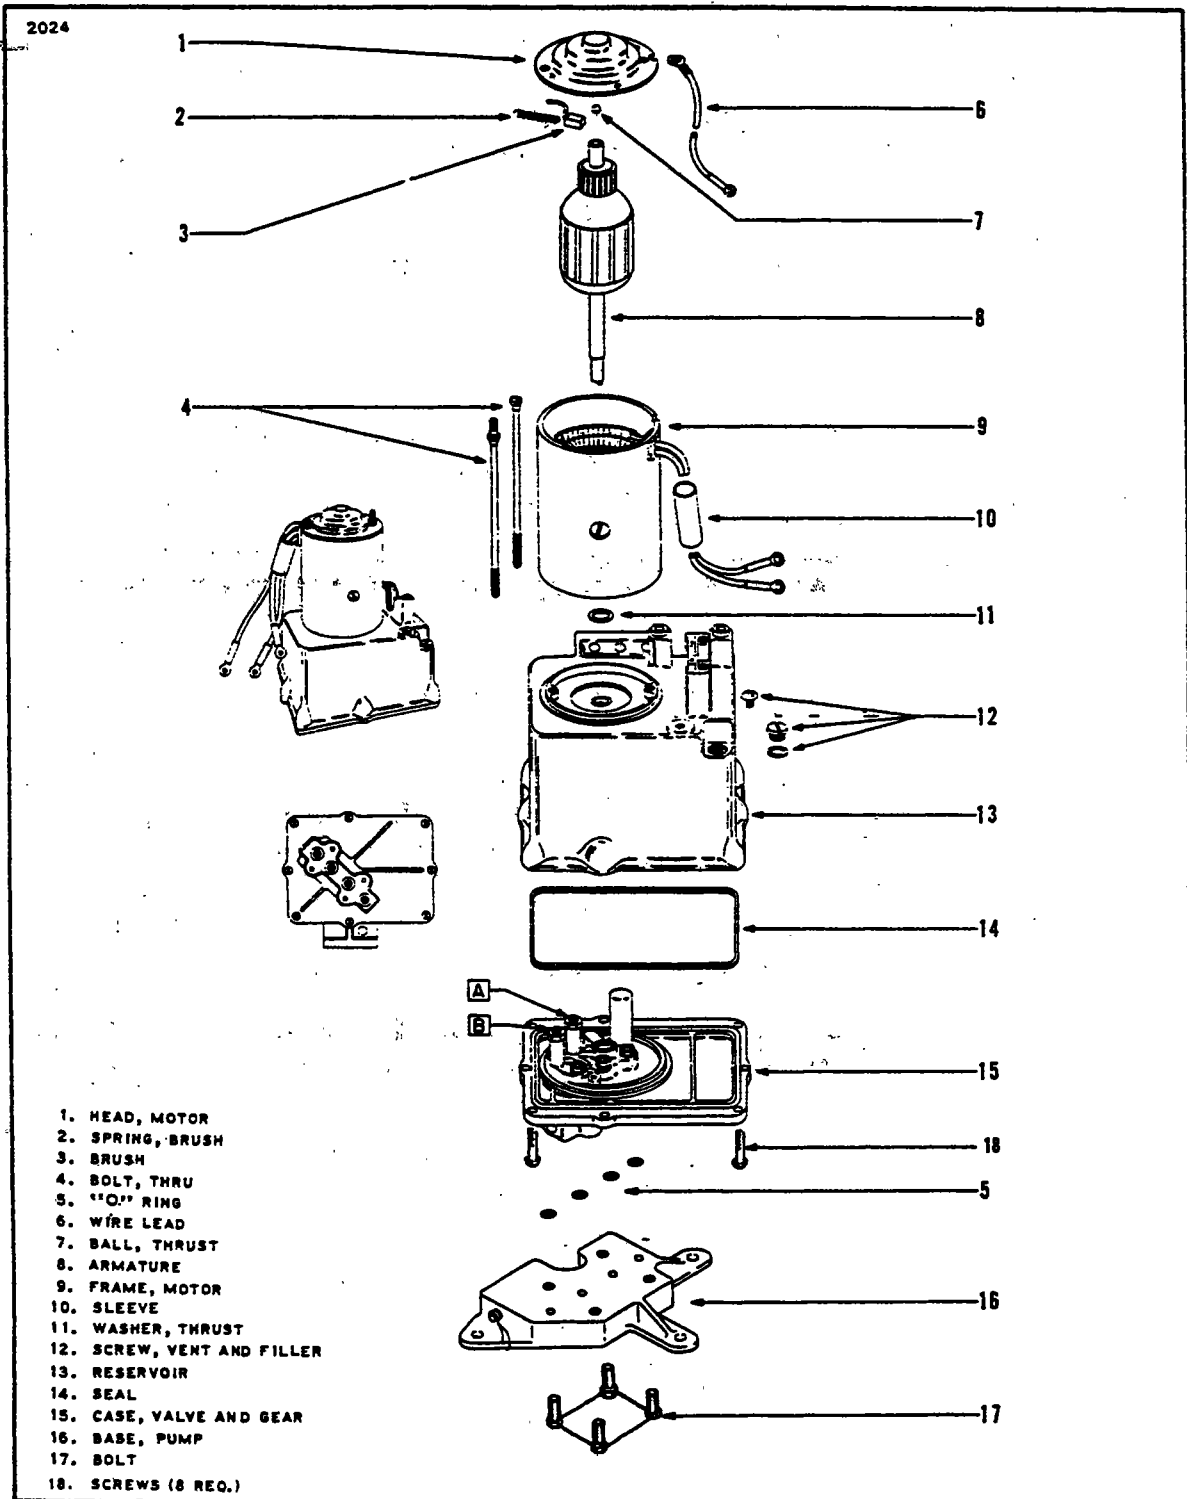

Figure 6-3. Hydraulic Pump/Reservoir, Exploded View
6-6. DISASSEMBLY OF HYDRAULIC PUMP. (Refer to Figure 6-3.) After the hydraulic pump has been removed from the airplane, cap or plug all ports and clean the exterior of the pump with a dry type solvent to remove accumulated dust or dirt. To disassemble any one of the three main components of the pump, proceed as follows:
### 6-8. ASSEMBLY OF HYDRAULIC PUMP. (Refer to Figure 6-3.)
1. Position the motor frame (referring to Figure 6-3, identified as No. 9) on the reservoir (No. 13). Note the aligning marks on the frame and reservoir.
2. Place thrush washers (1), of the same amount removed, on the drive end of the armature (8).
5. Insert the thrust ball (7) in the bearing of the head assembly (1). To hold the ball in position, place a small amount of light grease inside the bearing.
6. Place head assembly on frame and allow brushes to extend over commutator. Remove the string securing the brushes in the holders. Push head assembly on frame and ensure proper indexing of head and frame assemblies. Secure in place with thru bolts (4).
7. Check freedom of rotation and end play (thrust) of the armature within the assembly. A minimum of .005 of an inch end play is allowable. Should this be incorrect, adjust by adding or removing thrust washers (11) on drive end of armature shaft, as required.
- b. The valve body and gear case assembly (15) may be assembled to the reservoir (13) as follows:
5. Connect the blue lead to the positive terminal of the power supply. Pump should operate and the high pressure gauge should indicate between 1600 to 2000 psi. (Should the pressure be incorrect, adjust valve "A", Figure 6-3, in pump reservoir.)
7. Connect the green lead to the positive terminal of the power supply. Pump should operate in reverse, dropping the high pressure gauge to zero and the low pressure gauge should indicate between 500 to 800 psi. When the green lead is disconnected, both pressure gauges should indicate zero psi. (Should the pressure of 500 to 800 psi be incorrect, adjust valve "B", Figure 6-3, in pump reservoir.)
**NOTE:** During test steps (5) thru (7), there should not be any external leakage.